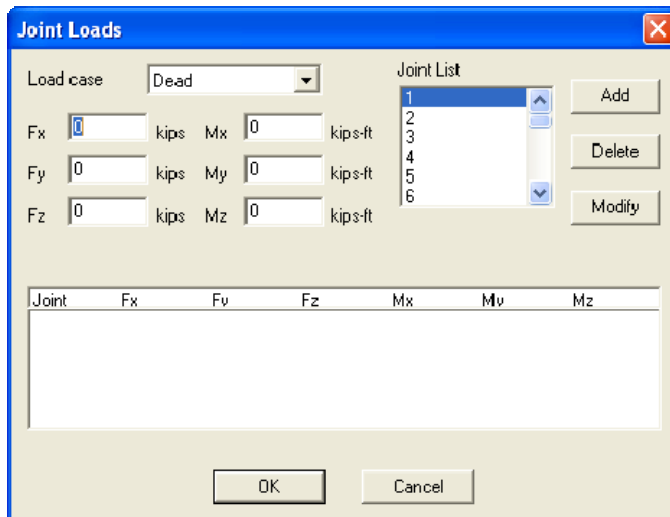

Figure 3-32 Joint Loads dialog box
- From the Analyze menu, select Joint Loads. The dialog box of Figure 3-32 appears. Some text boxes may not be available depending on the structure type selected.